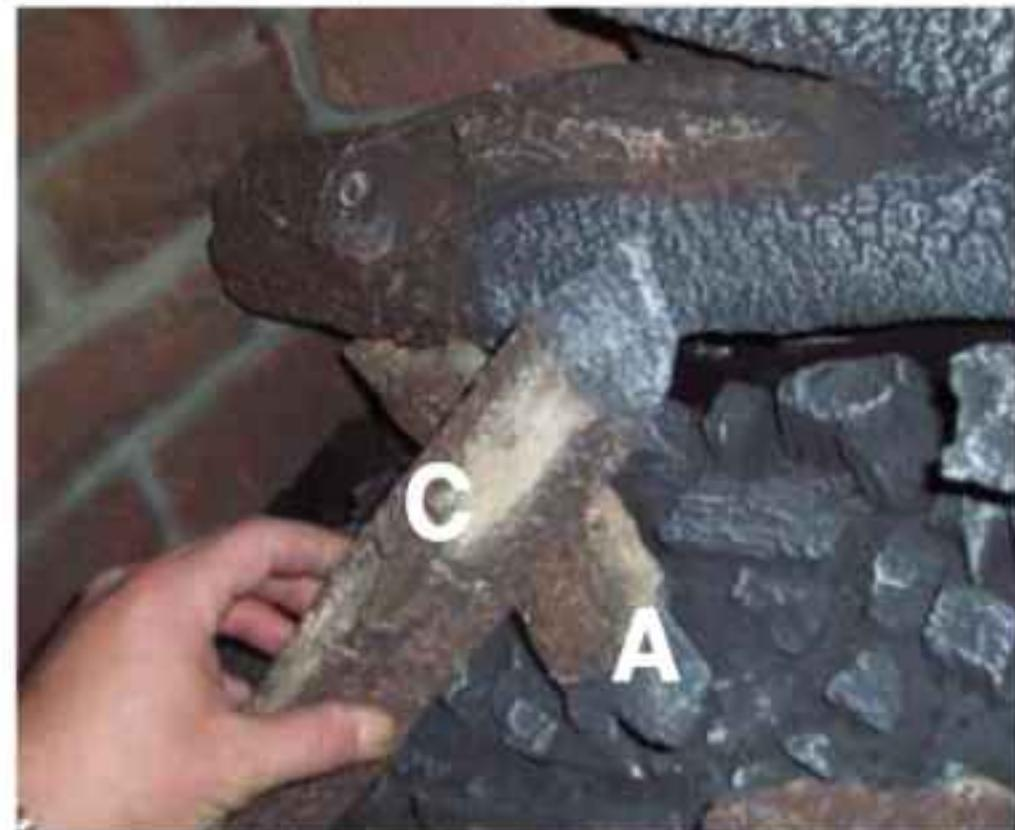

Figure 90: Log C Position
- 5) Position Log C on Log A using Locator as shown in Figure 90.